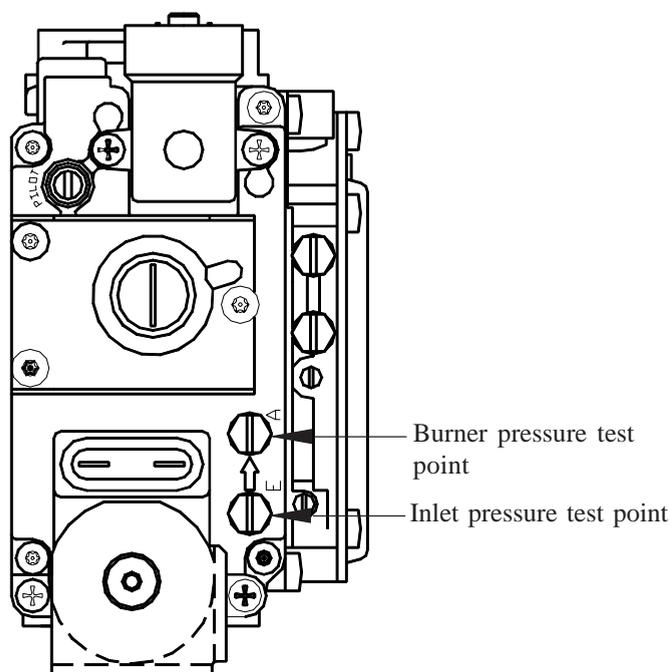

Fig. 5
- 7.8.3 Referring to Fig. 5, remove and retain the Burner Pressure Test Point blanking screw, and fit pressure a test gauge to the test point.